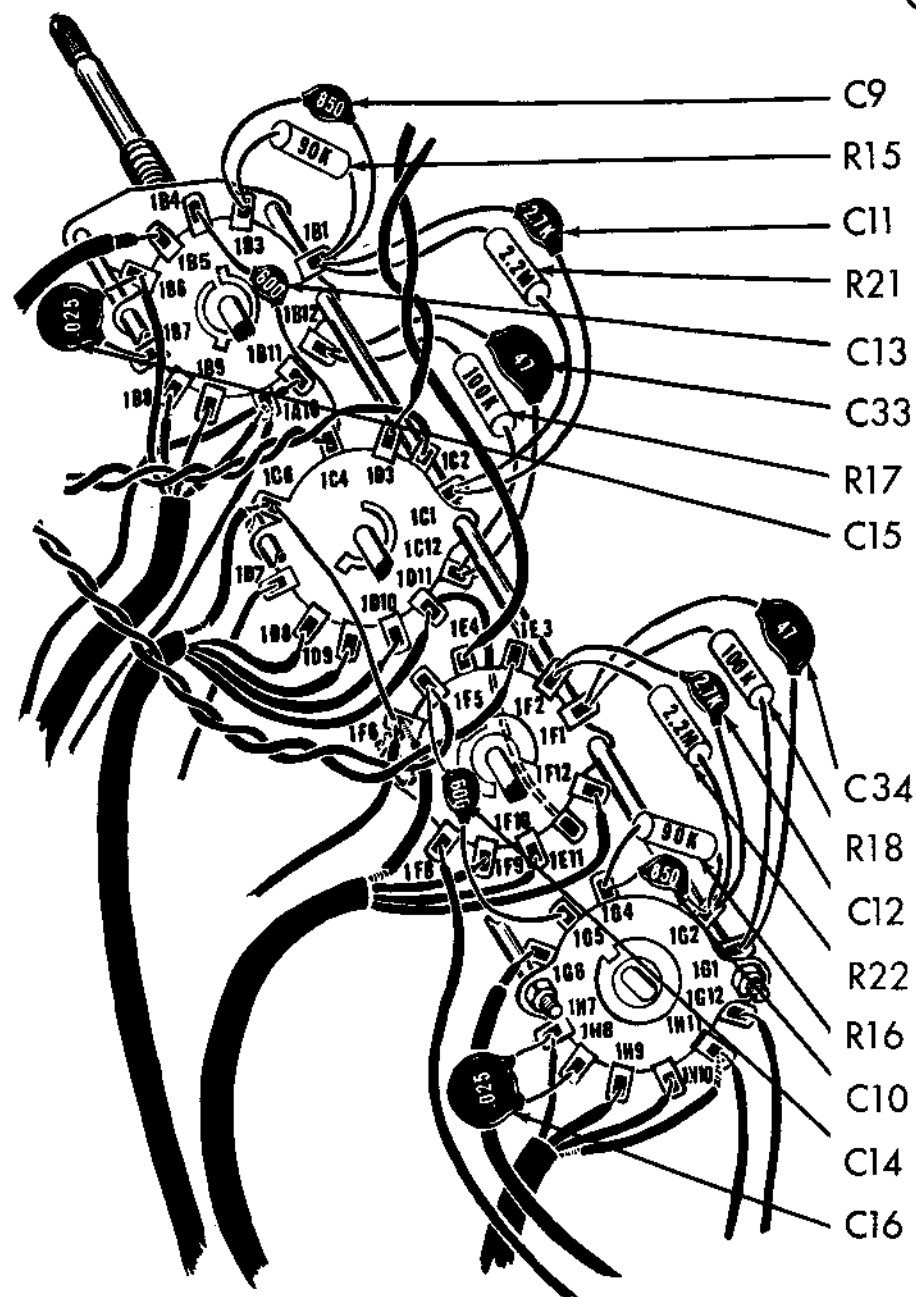

Fig. 1
1. () Fig. 1. Cut all leads on two .025mfd (25K or 25,000mmf) disc capacitors, C15 and C16, to 3/4". Cover each lead with a 1/2" piece of spaghetti. Connect C15 from S1B-6 (C) to S1B-7 (S1). Connect C16 from S1H-7 (Q) to S1H-8 (S1).
2. () Fig. 1. Cut all leads on two 90K Ω (white, black, orange, gold) 5% resistors, R15 and R16, to 1/2". Connect R15 from S1B-3 (Q) to S1B-1 (C). Connect R16 from S1G-2 (C) to S1G-4 (C).
3. () Fig. 1. Cut all leads on two 850mmf disc capacitors, C9 and C10, to 3/4". Connect C9 from S1B-3 (S2) to S1B-1 (Q). Connect C10 from S1G-2 (Q) to S1G-4 (S2).
4. () Fig. 1. Cut all leads on two 2.2M Ω (red, red, green, silver) 10% resistors, R21 and R22, to 1/2". Connect R21 from S1B-1 (C) to S1C-1 (C). Connect R22 from S1F-2 (C) to S1G-2 (C).
5. () Fig. 1. Cut all leads on two .0027mfd (2.7K or 2700mmf) disc capacitors, C11 and C12, to 1/2". Cover each lead with a 1/4" piece of spaghetti. Connect C11 from S1B-1 (S4) to S1C-1 (S2). Connect C12 from S1F-2 (S2) to S1G-2 (S4).
6. () Fig. 1. Cut all leads on two 100K Ω (brown, black, yellow, silver) 10% resistors, R17 and R18, to 1/2". Connect R17 from S1B-12 (Q) to S1C-12 (Q). Connect R18 from S1F-1 (C) to S1G-1 (C).
7. () Fig. 1. Cut all leads on two 47mmf disc capacitors, C33 and C34, to 3/4". Connect C33 from S1B-12 (S2) to S1C-12 (S2). Connect C34 from S1F-1 (S2) to S1G-1 (S2).
8. () Fig. 1. Cut all leads on two 600mmf disc capacitors, C13 and C14, to 3/4". Connect C13 from S1B-4 (S1) to S1C-4 (Q). Connect C14 from
9. () Fig. 1. Strip back the outer insulation 1 1/2" from one end of an 8" piece of 3 conductor shielded cable. Twist the shield strands together and cover with a 1 1/4" piece of thick spaghetti. Cut the brown lead to 1 1/4", the red lead to 3/4" and the orange lead to 1". Strip back the insulation 1/4" from the end of each of these leads. Connect the brown lead to S1B-6 (S2), the red lead to S1B-8 (S1), the orange lead to S1B-9 (S1) and the twisted shield strands to S1A-10 (C). On the other end of the same piece of shielded cable, strip the outer insulation back 3/4". Twist the shield strands together. Strip back the insulation 1/4" from the end of each of the inner conductors. This end of the cable does not get connected until later.
10. () Fig. 1. Connect one end of a 3 1/2" piece of black wire to S1A-10 (S2).
11. () Fig. 1. Strip back the outer insulation 1 3/4" from one end of an 8" piece of the 4 conductor shielded cable. Twist the shield strands together and cover with a 1 1/2" piece of thick spaghetti. Cut the brown, red and orange leads to 3/4" each and the yellow lead to 1 1/4". Strip back the insulation 1/4" from the end of each of these leads. Connect the brown lead to S1D-8 (S1), the red lead to S1D-9 (S1), the orange lead to S1D-10 (S1) and the yellow lead to S1D-11 (C). Connect a 1" piece of bare wire from S1D-11 (S2) to S1E-11 (S1). Connect the twisted shield strands to S1C-6 (C). On the other end of the same piece of shield cable, strip the outer insulation back 1 1/4". Twist the shield strands, cut to 3/4" and cover with 1/2" piece of spaghetti. Cut the red, brown, orange, and yellow leads to 1". Strip back the insulation 1/4" from the end of each of the inner conductors. This end of the cable does not get connected until later.
12. () Fig. 1. Strip back the insulation 1 3/4" from one end of a 6 1/2" piece of 3 conductor shield cable. Twist the shield strands together and cover with a 1 1/2" piece of thick spaghetti. Cut the brown and red leads to 3/4" and the orange lead to 1". Strip back the insulation 1/4" from the end of each of these leads. Connect the orange lead to S1F-12 (S1), the red lead to S1F-10 (S1), the brown lead to S1F-9 (S1) and the twisted shield strands to S1F-6 (C). On the other end of the same piece of shielded cable, strip the outer insulation back 1 1/4". Twist the shield strands. Cut the shield strands, red lead and orange lead to 3/4" and the brown lead to 1". Cover shield strands with 1/2" piece of spaghetti. Strip back the insulation 1/4" from the end of each of the inner conductors. This end of the cable does not get connected until later.
13. () Fig. 1. Connect one end of a 4 1/2" piece of black wire to S1F-6 (C).
14. (✓) Fig. 1. Connect a 1 1/2" piece of bare wire from S1C-6 (S2) to S1F-6 (S2).
15. (✓) Fig. 1. Strip back the outer insulation 1 1/4" from one end of a 6 1/2" piece of 3 conductor shield cable. Twist the shield strands together,
16. (✓) Fig. 1. Connect one end of a 4" piece of black wire to S1H-11 (S2).
17. (✓) Fig. 1. Connect one end of a 2 1/2" piece of grey wire to S1B-11 (S1).
18. (✓) Fig. 1. On one end of a 4" piece of single conductor shielded cable, strip the outer insulating back 1/2". Twist the shield strands together and cut off. Strip back the inner insulation 1/4" and connect to S1B-5 (S1). On the other end of the same piece of shielded cable, strip back the outer insulation 3/4". Twist the shield strands together. Strip back the inner insulation 1/4". This end of the cable does not get connected until later.
19. (✓) Fig. 1. Connect one end of a 4" piece of brown wire to S1D-7 (S1).
20. (✓) Fig. 1. Connect one end of a 3" piece of brown wire to S1F-8 (S1).
21. (✓) Fig. 1. On one of a 3" piece of single conductor shielded cable, strip the outer insulated back 1/2". Twist the shield strands together and cut off. Strip back the inner insulation 1/4" and connect to S1G-6 (S1). On the other end of the same piece of cable, strip the outer insulation back 3/4". Twist the shield strands together. Strip back the inner insulation 1/4". This end of the cable does not get connected until later.
22. (✓) Fig. 1. Connect one end of a 3" piece of grey wire to S1G-12 (S1).
23. (✓) Fig. 1. Connect one end of a 5" piece of grey wire to S1D-3 (S1) and one end of a 5" piece of yellow wire to S1E-4 (S1). Twist the two leads together loosely.
24. (✓) Fig. 1. Connect one end of a 4 1/2" piece of green wire to S1C-2 (S1) and one end of a 4 1/2" piece of blue wire to S1C-4 (S2). Twist the two leads together.
25. (✓) Fig. 1. Connect one end of a 5 1/2" piece of violet wire to S1E-3 (S1) and one end of a 5 1/2" piece of white wire to S1F-5 (S2). Twist the two leads together.